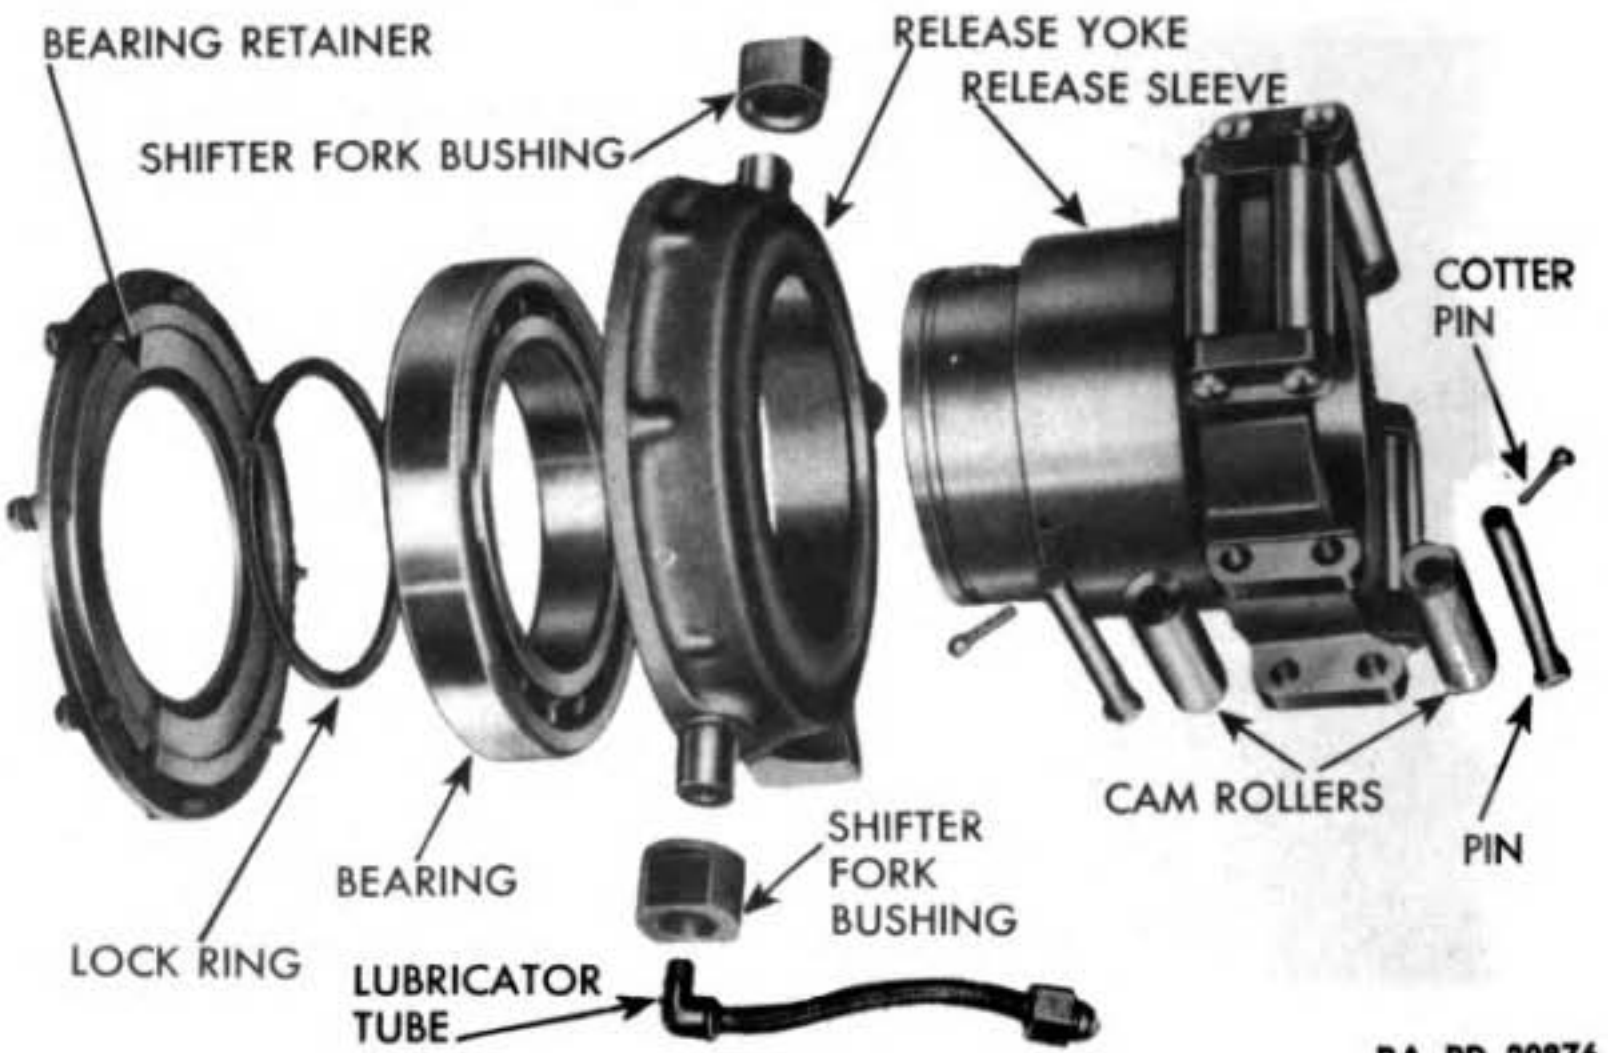

Figure 146 — Clutch Release Sleeve Assembly Components
b. Disassemble Release Yoke and Sleeve (fig. 146). Unscrew lubricator tube from release yoke, and remove shifter fork bushings. Remove eight cap screws and lock washers attaching bearing retainer to release yoke. Remove lock ring from groove in release sleeve. Press bearing off release sleeve and out of release yoke. Remove eight cotter pins and pins attaching cam rollers to release sleeve.
g. Assemble and Install Clutch Release Sleeve and Yoke. Install eight cam rollers, pins, and cotter pins in supports on release sleeve (fig. 146). Install pins so they all point in one direction. Press bearing into release yoke. Press bearing and yoke onto release sleeve, and install lock ring in groove around end of sleeve. Install bearing retainer on yoke, and attach with eight cap screws and lock washers. Slide release sleeve assembly on quill extending from back
plate (fig. 145). Install release stop clamps in groove around end of quill, and attach with two bolts, nuts, and cotter pins (fig. 144). Install shifter fork bushings (fig. 146) on release yoke, and install lubricator tube in end of yoke.